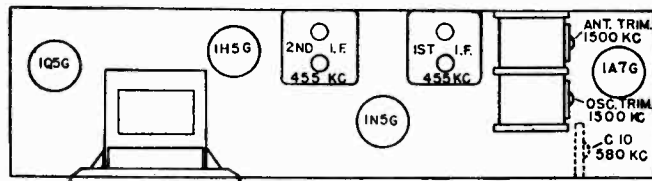

Fig. 1. Trimmer Location
I.F.—455 K.C. Broadcast—1500 K.C. and 580 K.C. The location of all trimmers is shown in Fig. 1.